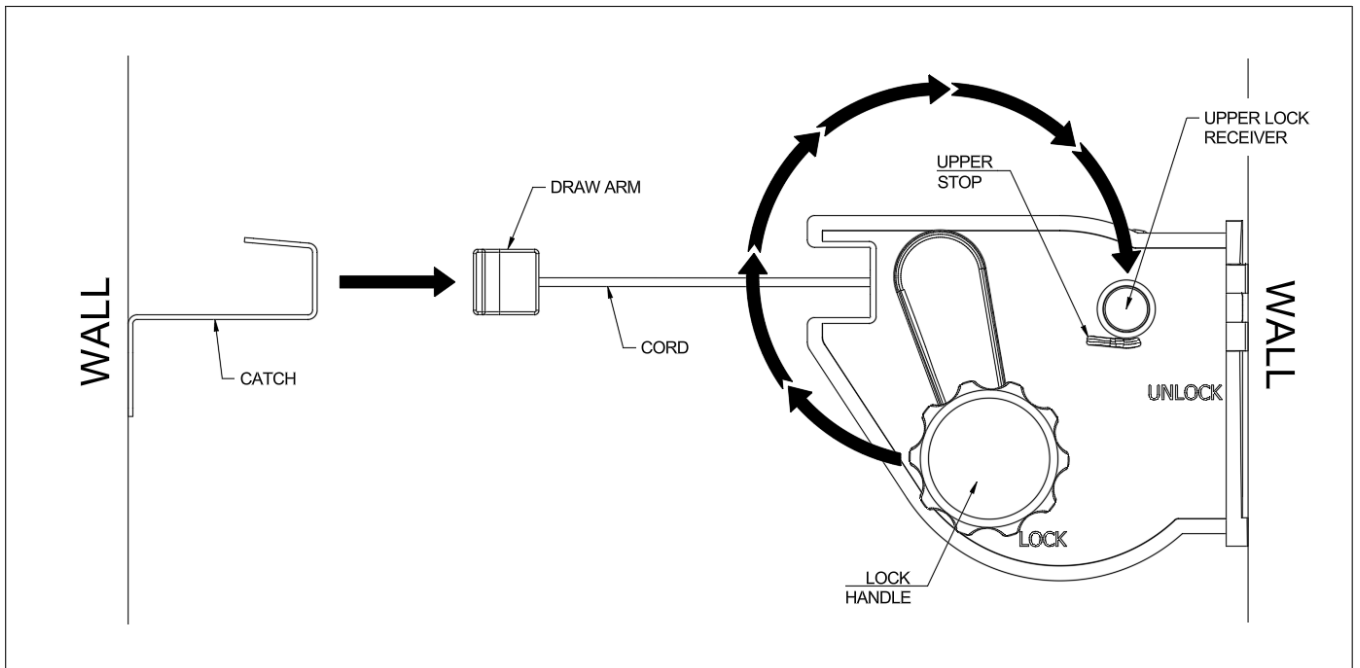

Fig 9. To Retract.
- Remove the draw arm from the receiving Catch and place back into the Cabinet for storage. (Fig 9).